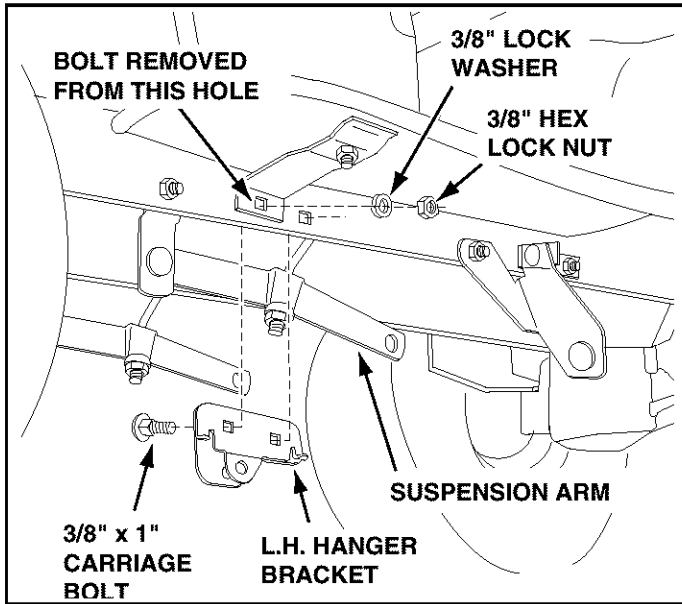

FIGURE 7 LEFT SIDE VIEW
### On Tractors With Foot Rest Brackets (Figure 7)
- Remove the bolt and nut that fasten the L.H. and R.H. foot rest brackets to the frame. See figure 7.
- Attach the L.H. Hanger Bracket (marked "L") to the inside of the tractor frame using two 3/8" x 1" carriage bolts, 3/8" lock washers and 3/8" hex lock nuts. The bolt heads go on the inside of the tractor frame. Repeat for the R.H. side. See figure 7.